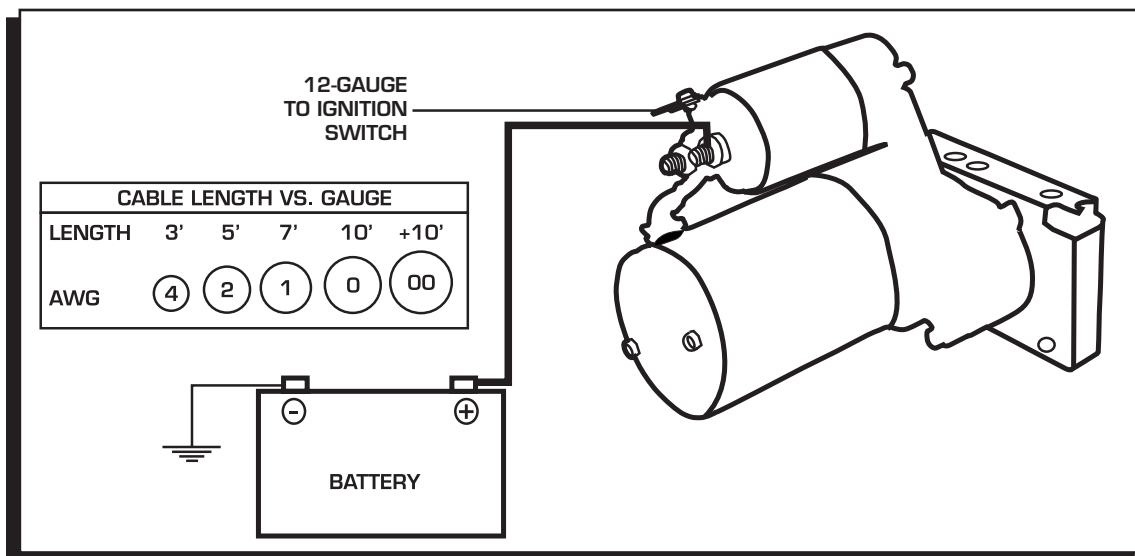

Figure 5 Wiring the Starter.
6. Connect the switch wire to the ignition terminal. This wire should be 12-gauge (Figure 5).
7. Attach the battery cable. The size of the battery cable depends on its length. Using the proper gauge wire is important to the operation of the starter. Both the positive and ground wires must be able to meet the demands of the starter. The chart in Figure 5 shows the recommended sizes. Be sure to route the wire away from the exhaust and moving parts of the engine.